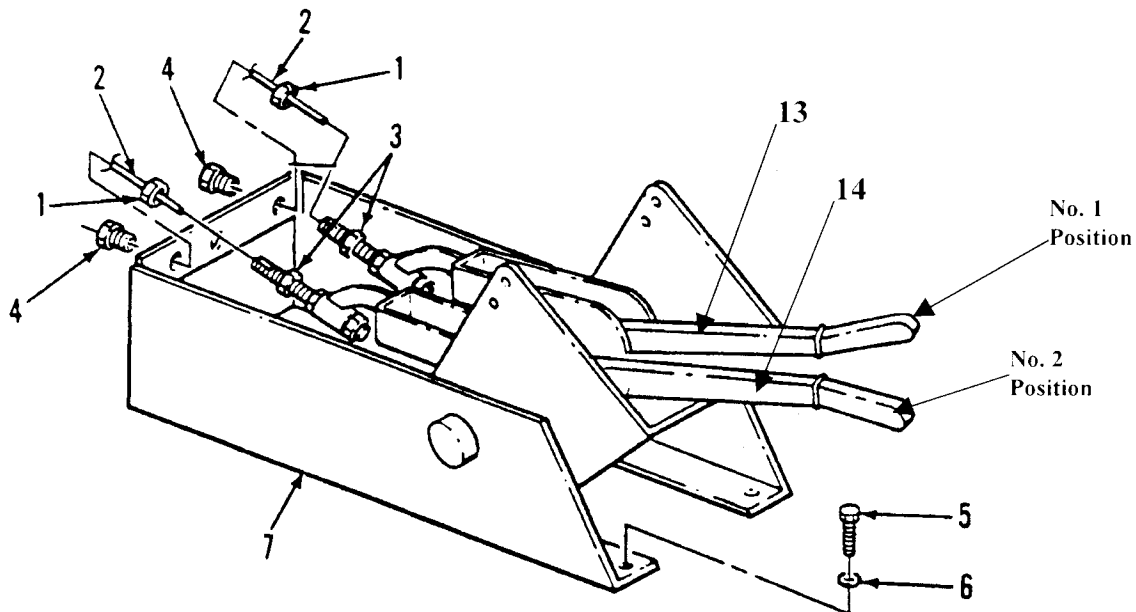

Figure 4-16 Control Box Assembly "Control Levers".
(4) Assembly.
(a) Thread nuts (17) on adjusting bolts (3). Install fuse nuts (16) and adjusting bolts (3) in yokes (9). Attach yokes to control levers (13 and 14) with roll pins (8). See Figure 4-16.
(5) Installation.
(a) Position lever assembly (7) on A-Frame, reference Figure 1-1, align holes and install screws (5) and lock washers (6). See Figure 4-16.
(c) Insert cable (2) from tank valve through bushing (4) on right side and install nut (1) on cable. Pull cable taut and install in groove of adjusting bolt (3). Screw nut (1) onto adjusting bolt (3) tight enough that cable (2) does not slip. See figure 4-16.